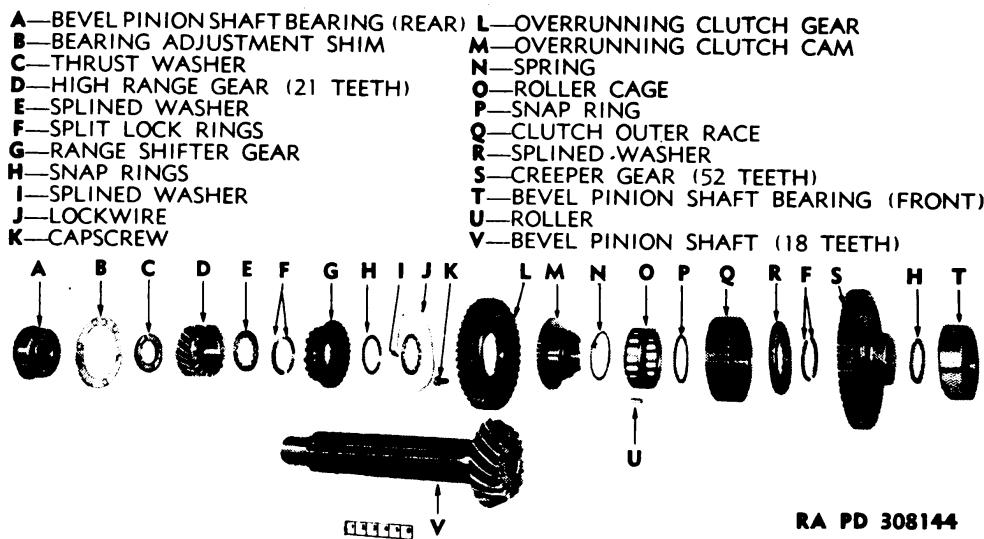

Figure 44 – Bevel Pinion Shaft and Gears Disassembled
(3) TRANSMISSION SHAFTS (figs. 44 and 45). Check shafts for straightness and general condition. Try bearings on their respective shafts. All bearings must fit on shafts with a light press fit. Make sure the bearing surfaces on shafts are smooth and that there are no burs preventing bearing from fitting tightly against shoulders on shafts. Try all gears on their respective shafts to make sure they slide easily in the shaft splines. If splines are badly worn or damaged by the gears, replace gears or shafts. Make sure all snap rings and snap ring grooves are not worn or rounded to the point where snap rings may be broken or slip out of grooves. Make sure all threads in transmission case or transmission shafts are clean and in good condition.